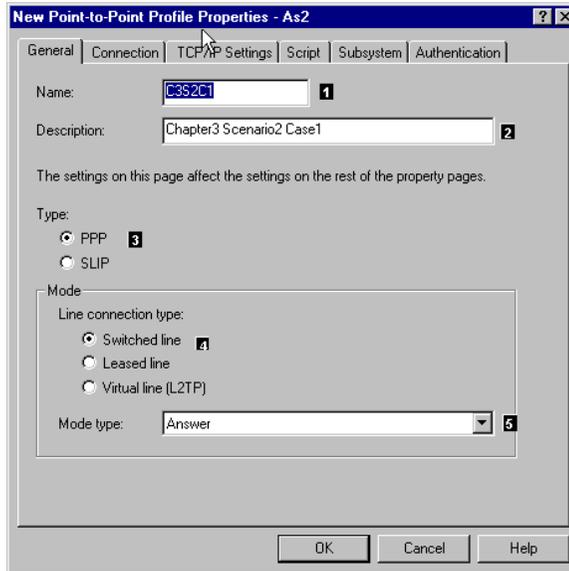

Figure 71. General page of the PPP connection profile as a switched answer
1. Configure the General page (Figure 71 on page 90) of the PPP answer profile.